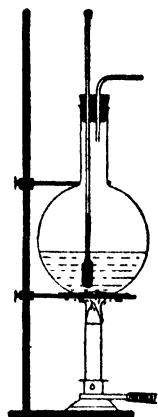

FIG. 73.
**EXERCISE 120.**—Take a clean litre flask and fit it with a two-holed rubber stopper which will allow an ordinary Centigrade thermometer to slide easily through one hole. Fit the other hole of the rubber stopper with a right-angled bend of rather wide-bored tube. Pour in as pure a sample of water as possible to a depth of 2 inches, and adjust the thermometer so that the bulb is in the liquid. Heat the water to boiling-point, and when steam is issuing freely from the right-angled bend, take the temperature of the boiling water, which should be  $100^{\circ}$  C. Now raise the thermometer so that the bulb is 2 inches above the boiling water, and the temperature of the steam will be found to be *the same* as that of the boiling water (see Fig. 73).